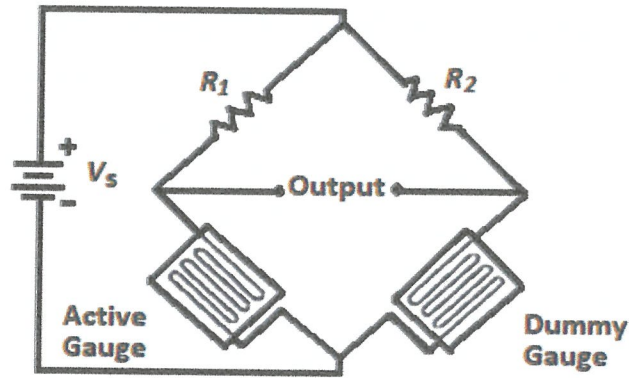

Figure Q2(b)
- Q2** (a) List **FIVE (5)** selection criteria for each component below;
- (b) A strain gauge with gauge factor, $GF = 2.03$ and active gauge, $R_A = 350 \Omega$ is used in the bridge of **Figure Q2(b)**. The bridge resistors are $R_1 = R_2 = 350 \Omega$, and the dummy gauge has $R_D = 350 \Omega$. If a tensile strain of $1450 \mu\text{m}/\text{m}$ is applied;